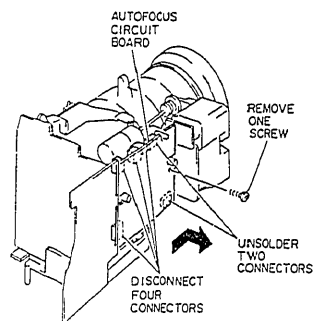

Fig. 2-13
- 1) Remove one (1) screw holding the autofocus circuit board. (See Fig. 2-13)
- 3) Disconnect four (4) connectors (CN1AF, CN2AF, CN3AF, CN4AF) on the autofocus circuit board.
- 4) Unsolder two (2) connectors (CN5AF, CN6AF) on the main circuit board.